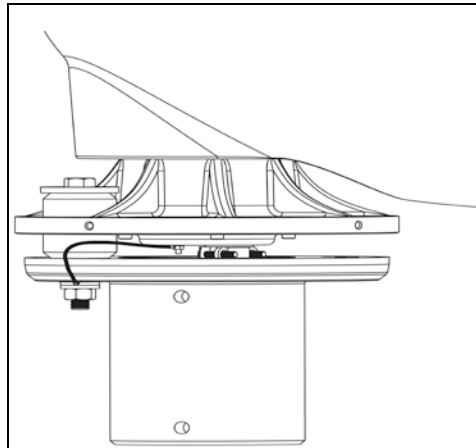

Figure 1
- Remove yaw shield and check the tightness of the eight (8) yaw bolts with a torque wrench. All yaw bolts should be torqued to 60 lb-ft (80 N-m). NOTE: Bolts shall not be loosened; only checked that they are at least the specified torque.
- Check ground lead coming from the yaw terminals of the turbine (the turbine must be grounded to the tower as depicted in Figure 1).